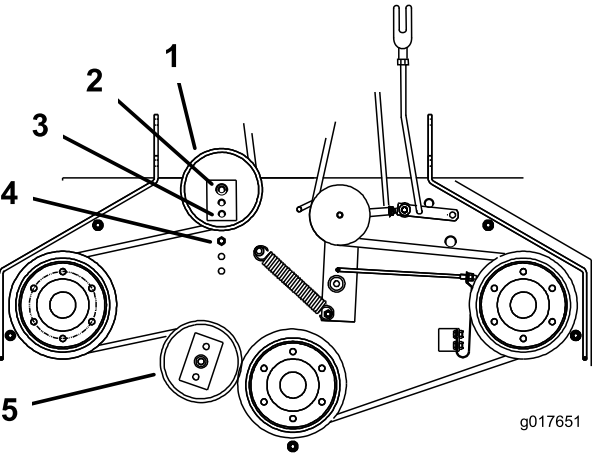

Figure 48
positioned to the middle or front hole (Figure 48). Use the hole that will give the correct adjustment.
- 7. When you move the idler pulley, you must move the belt guide. Move the belt guide to the front position (Figure 48).